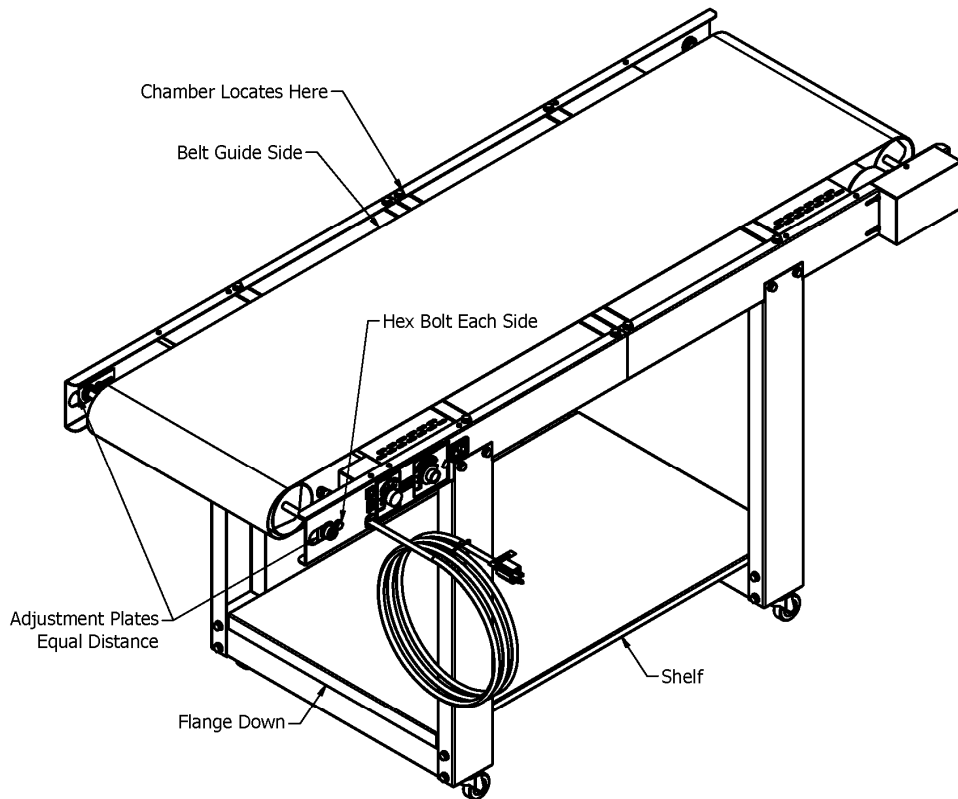

Figure 2
12. Install shelf on top of leg crosses. (see Fig. 2) **Maximum Capacity 50 Pounds**
5. **Adjust belt tension:** Loosen 2 hex bolts at Take up Roller (See Fig 2). Pull roller at groove end till you have sag of 1 – 1.5 inches below the cross-members as the belt travels under the conveyor bed. Tighten hex bolt.